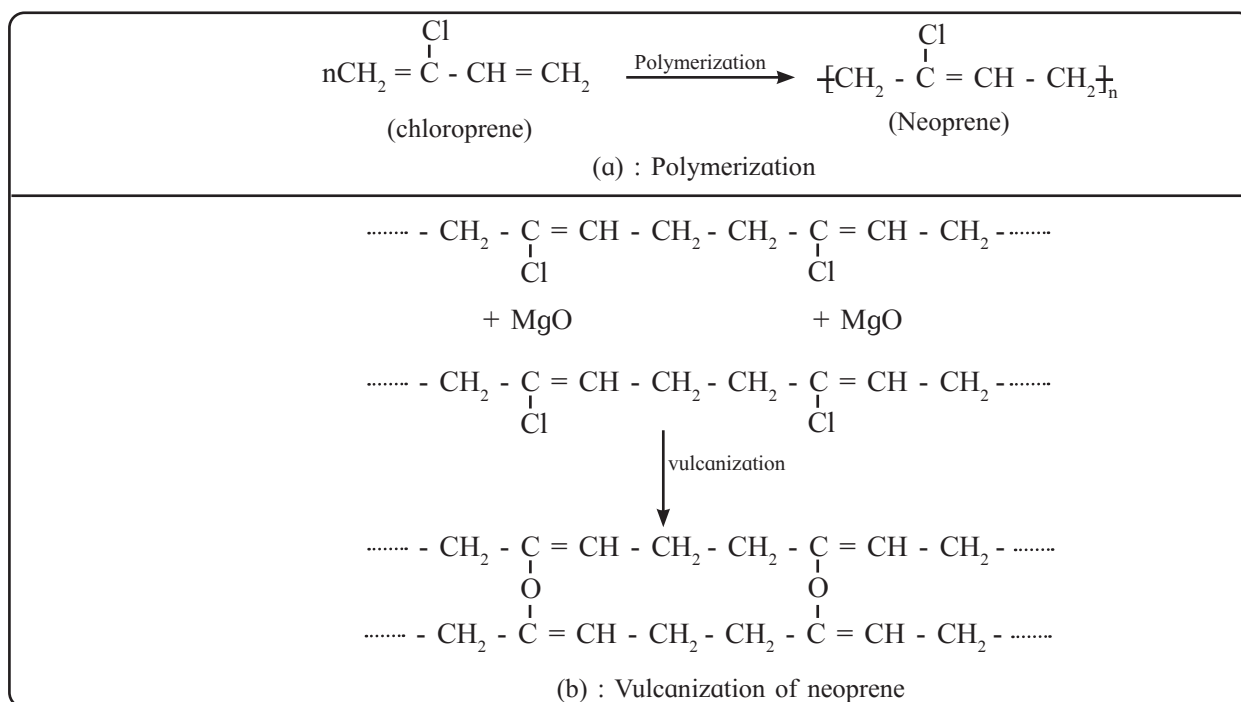

Fig. 15.6 Neoprene and vulcanization
15.3.9 Neoprene : Neoprene, a synthetic rubber, is a addition polymer of chloroprene (2-chloro-1,3-butadiene). Chloroprenepolymerizes rapidly in presence of oxygen. Vulcanization of neoprene takes place in presence of magnesium oxide. The reactions involved can be represented in Fig. 15.6.